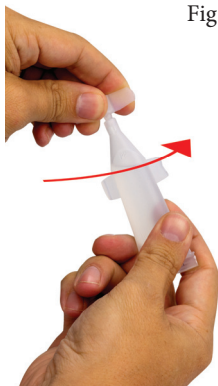

Fig 1.
1. Snap open one Ready Snap® 1P Method Verification Standard by twisting the top 180° (Fig. 1).